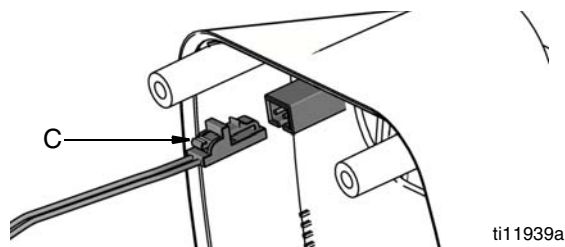

FIG. 49
10. Reconnect solenoid lead (C) (FIG. 49).